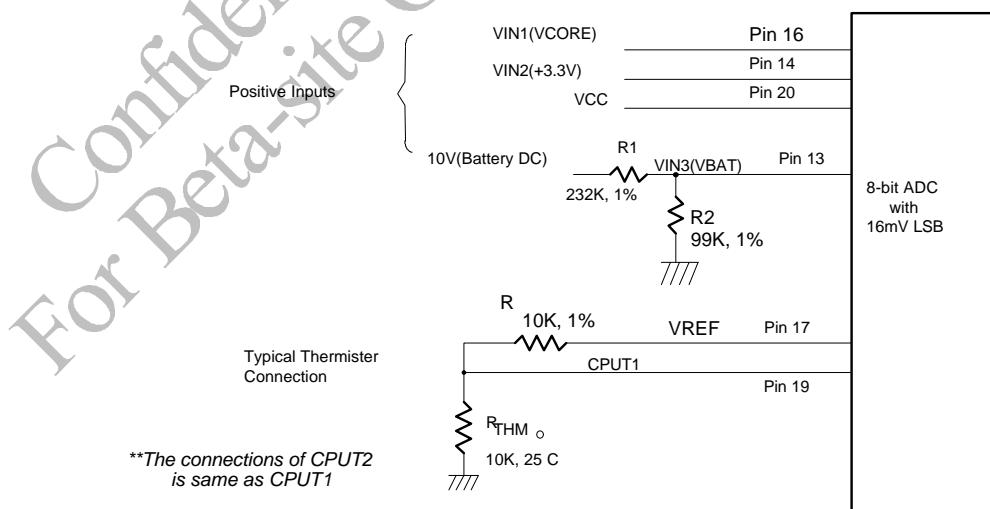

Figure. 10.
The maximum input voltage of the analog pin is 4.096V because the 8-bit ADC has a 16mV LSB. Really, the application of the PC monitoring would most often be connected to power suppliers. The CPU V-core voltage and +3.3V voltage can directly connected to these analog inputs. The 5VSB and battery inputs should be reduced a factor with external resistors so as to obtain the input range. As Figure 10 shows.
The W83L784R can connect three thermistors to measure three different envirment temperature. The specification of thermistor should be considered to (1) β value is 3435K, (2) resistor value is 10K ohms at 25°C. In the Figure 10, the themistor is connected by a serial resistor with 10K Ohms, then connect to VREF (pin 17).